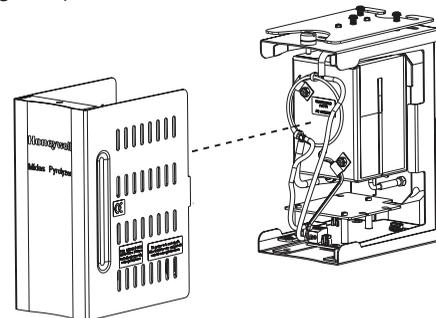

Figure 8: Removing the front cover
2. Slide the front cover out of the C-enclosure (see Figure 8).